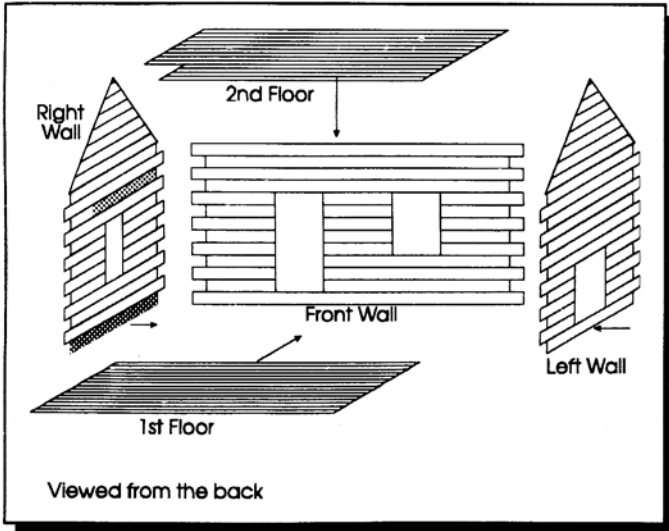

Figure 17- Assemble Walls and Floors
a. Interlock and glue the Left and Right Side Walls with the Front Wall. Insert and glue the 1st Floor and 2nd Floor on top of the Floor Supports. Tape together. See Figure 17.